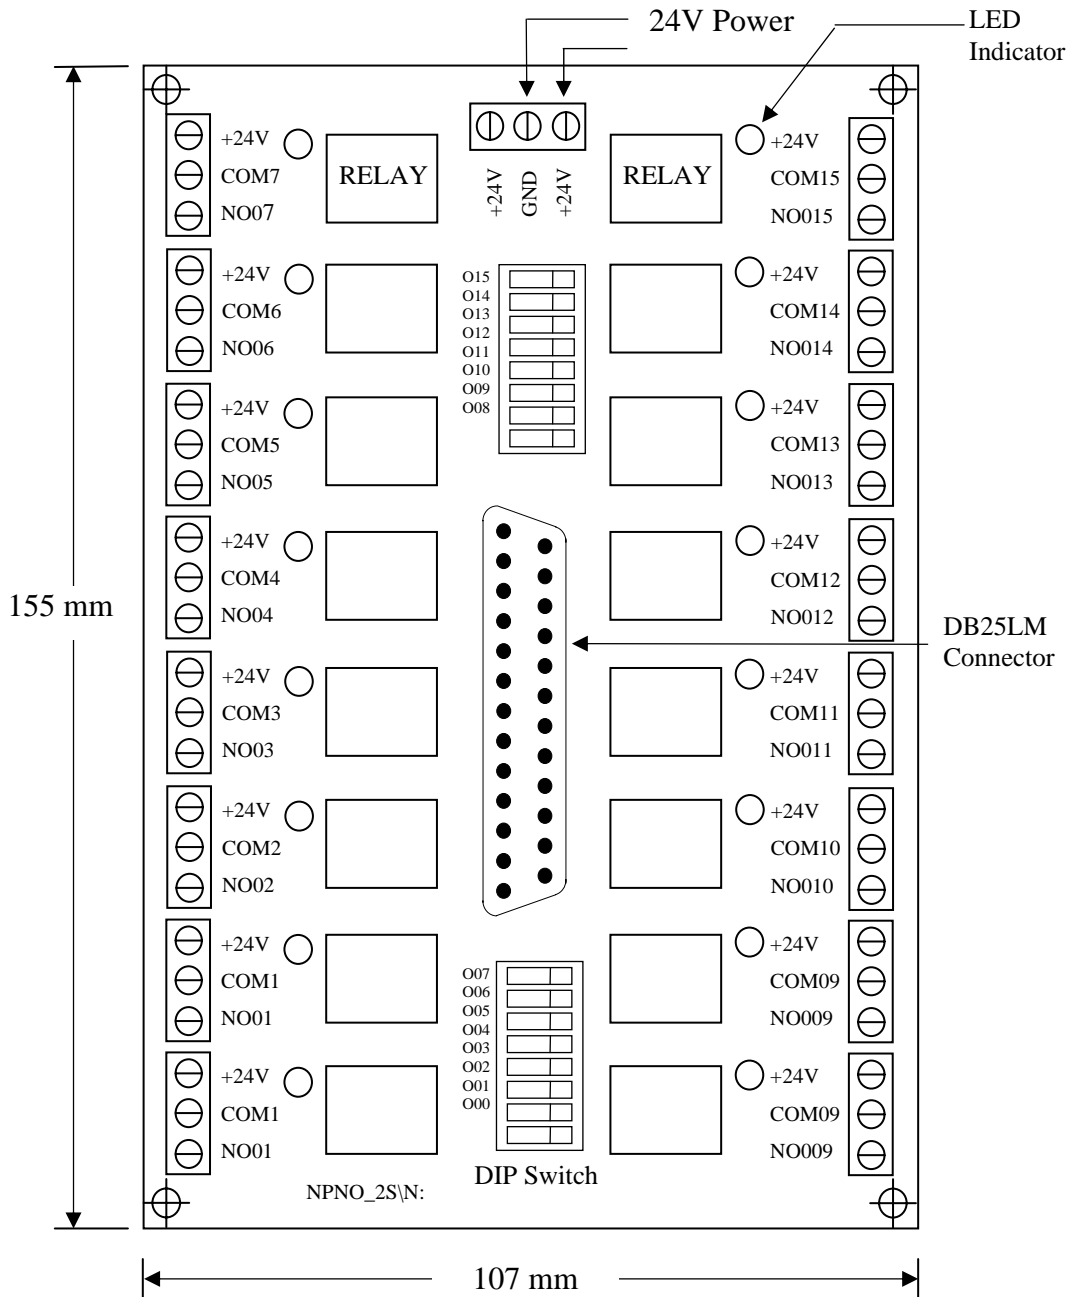

Fig 5-3 HUST Output Relay Board (NPN-type)
2. Connect output signal line from external device to the corresponding terminal of output relay board, then connect from DB25LM connector on the board to the connector on the controller box. HUST output board is shown in Fig 5-3. The